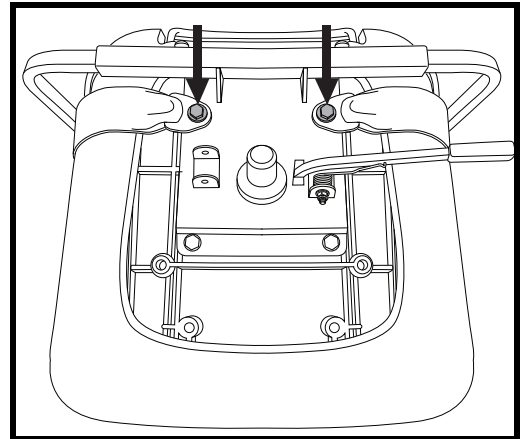

Figure 16. Positioning Belt Bolts
Your scooter seat may be equipped with an auto-type positioning belt that can be adjusted for operator comfort. See **figure 16**. The positioning belt is designed to help support the operator so that he or she does not slide down or forward in the seat. The positioning belt is not designed for use as a restraining device.
2. Place the seat upside down so that you can see the bottom of the seat base. See **figure 16**.